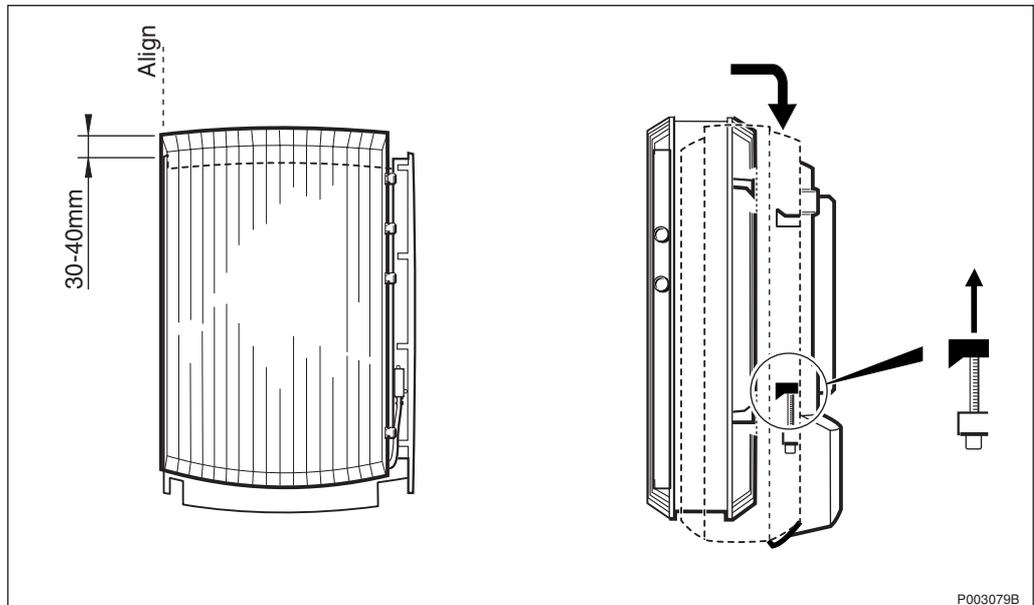

Figure 180 Facilitating mounting the cabinet on the mounting base
2. Facilitate the mounting of the cabinet by aiming for the left side of the cabinet. Start by holding the cabinet a few centimeters above the mounting base. Make sure that the hooks are according to *Figure 180 on page 166*.